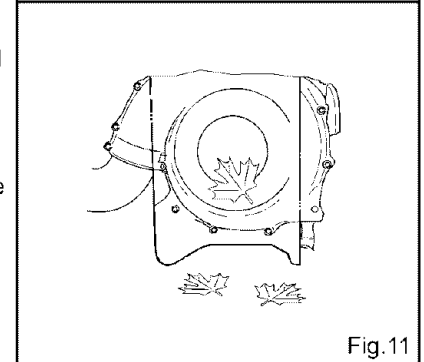

Fig.11
- If the housing intake port or pipe output port is blocked, stop the engine and remove the leaves or waste, etc.(Fig.11)